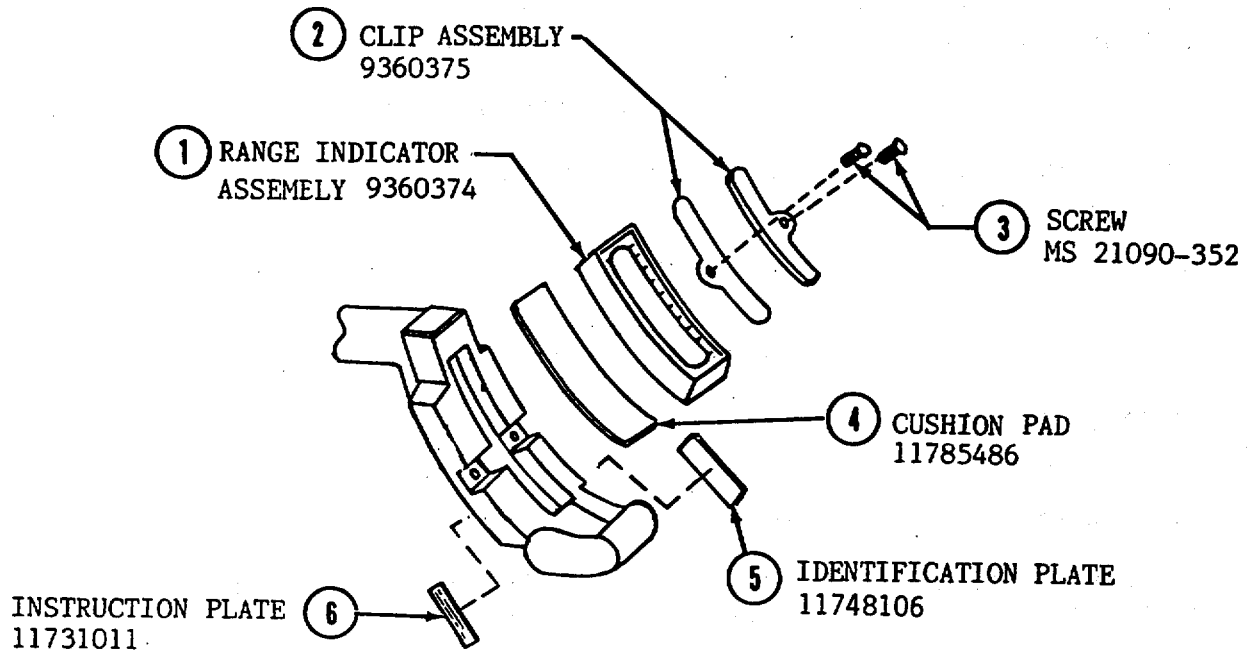

Figure 1. Improved Range Indicator Kit.
Refer to figure 1 for the following steps.
(5) Record the MWO application on DA-Form 2408-5, Equipment Modification Record, in accordance with DA PAM 738-750.
b. Marking equipment: No marking is required other than the application of the new ID plate (see figure 1 for the location of the ID plate).